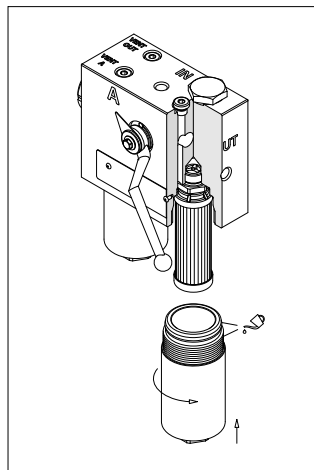

fig. 27
- (Fig. 27) Lubricate the thread and the O-ring of the bowl, then screw the bowl in referring to the tightening torque table in paragraph 3